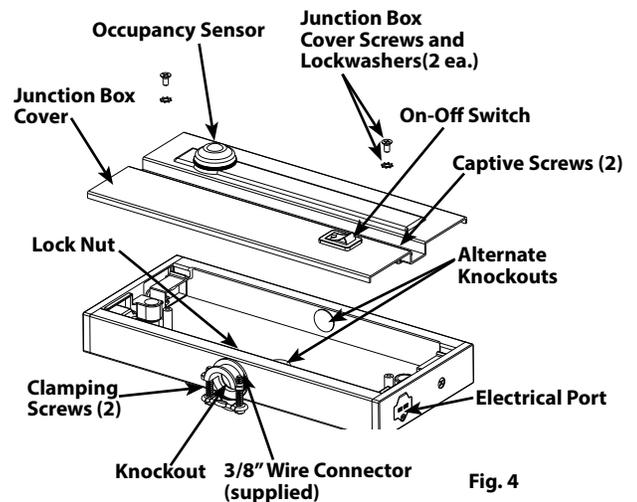
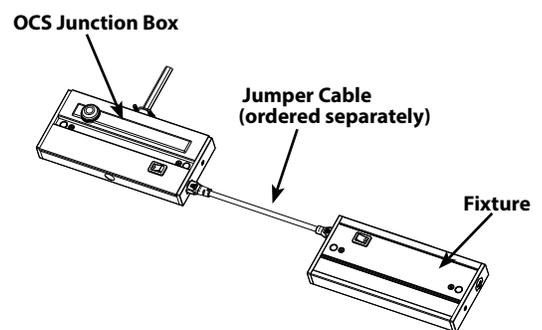

Fig. 4
Fig. 5
1. Remove **Junction Box Cover Screws (2)** and remove **Cover**. Save **Screws** and **Lockwashers** (see Fig. 4)
6. Secure **Junction Box** to mounting surface using (2) **Captive Screws** (supplied), be careful not to drive screws all the way through the cabinet bottom. Use shorter screws if necessary (supplied by others).
8. Follow installation instructions provided with undercabinet light fixture for mounting and connector options (Fig. 5).